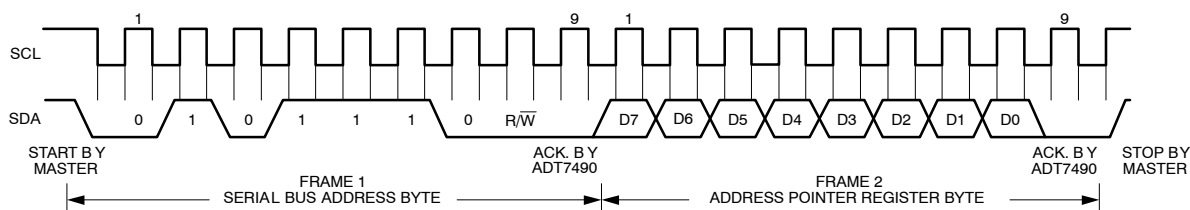
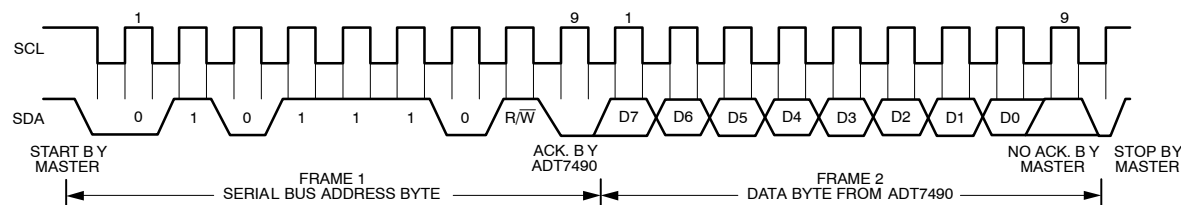

Figure 5. Writing to the Address Pointer Register Only
Figure 6. Reading Data from a Previously Selected Register
- If the NCT7491 address pointer register value is unknown or not the desired value, it must first be set to the correct value before data can be read from the desired data register. This is done by performing a write to the NCT7491 as before, but only the data byte containing the register address is sent because no data is written to the register. This is shown in Figure 5. A read operation is then performed consisting of the serial bus address, R/ $\overline{W}$ bit set to 1, followed by the data byte read from the data register. This is shown in Figure 6.
- If the address pointer register is known to be already at the desired address, data can be read from the corresponding data register without first writing to the address pointer register, as shown in Figure 6.